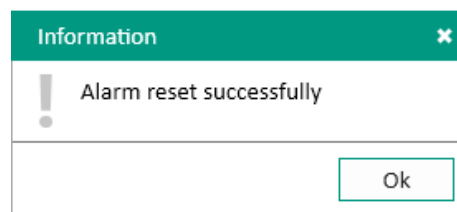

Figure 17 – **Reset alarm** command window
- reset alarm. The command is intended to reset the state of latching signals for LEDs, relays, the state of output signals of latching logic for transmission to the PCS. The command execution window is shown in figure 17;